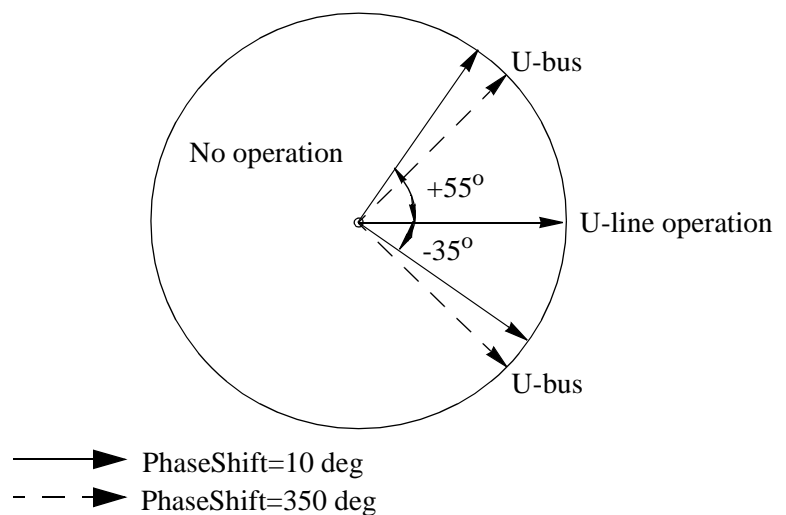

Figure 12: Test of phase difference.
- 4 Apply a PhaseShift setting of 10 deg. Change the phase angle between $+55^\circ$ and -35° and verify that the two outputs are activated for phase differences between these values but not for phase differences outside. See Figure 12:.